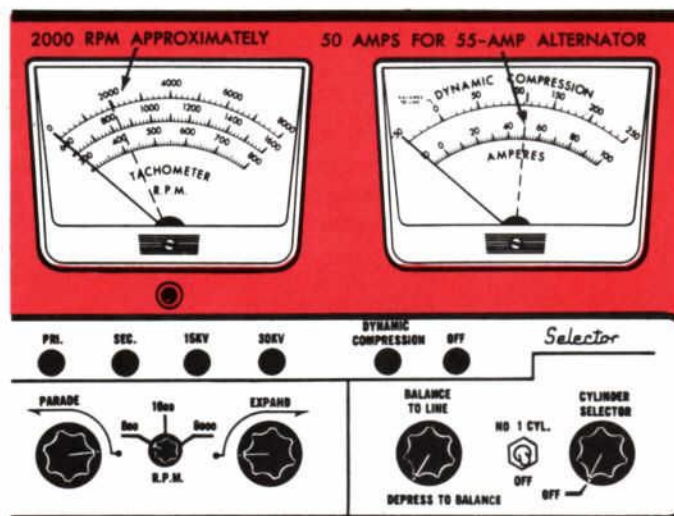

Figure 8—Alternator Output Test
3. Crank the engine and immediately adjust it to about 2000 rpm while watching the ammeter (Figure 8). The reading should be within five amps of the alternator's